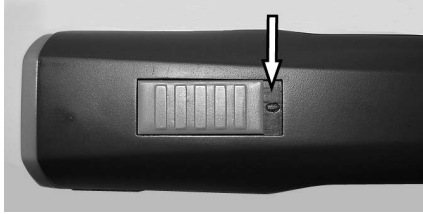

fig. 4 Switch in OFF-position ("0")
1. Test the contacts of the clipper (1) and the battery (2) for foreign particles and contamination.
2. Assure, that the switch of the clipper is in OFF-position ("0") (fig. 4).
1. Move the switch to position "0" (fig.4).
2. Push the battery interlock (2) on both sides inward and pull the battery (1) out of the clipper.